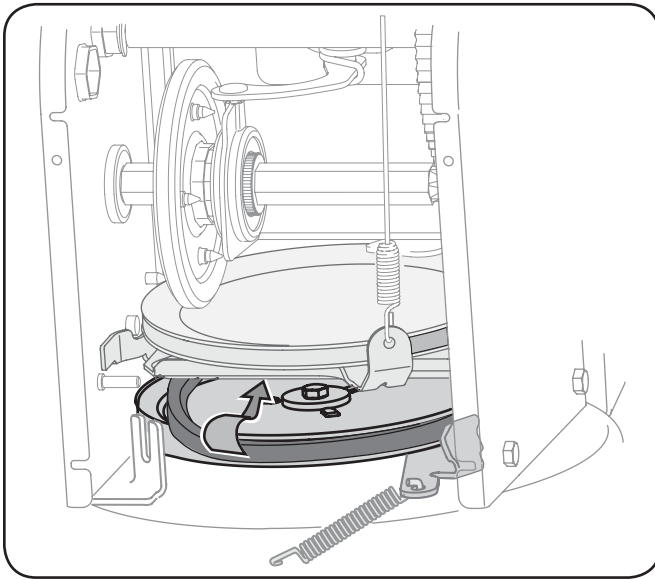

Figure 8-5
- Remove the belt from around the auger pulley, and slip the belt between the support bracket and the auger pulley. See Fig. 8-5.